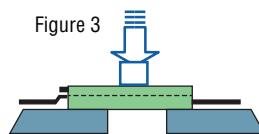

Figure 3
- c) Do not apply more than 20 N bending force to the breaker body (refer to Figure 3)